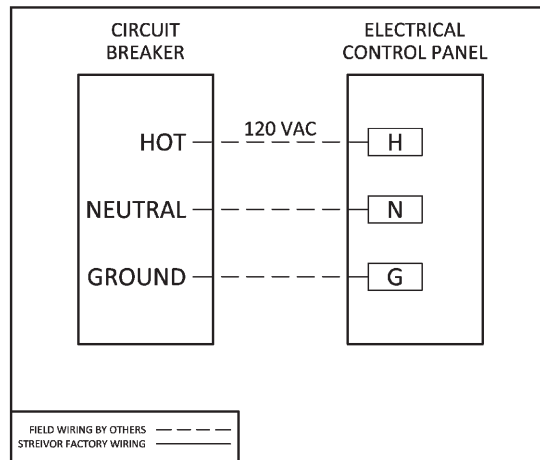

FIGURE 1: Control Circuit Input Power
- Connect 120 VAC single phase power to the terminal blocks in the control panel labeled *H*, *N*, and *G* (Figure 1).